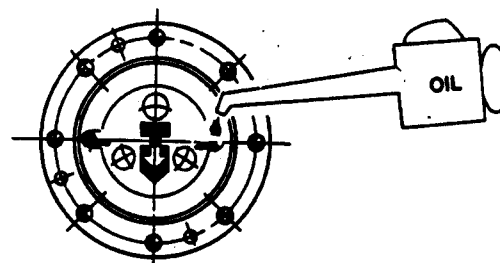

Figure 2.
4. Move the machine until the plug is lined up as shown in Figure 2. Clean area around the axle hub drain/fill plug. Remove the plug and check oil level. Oil level must be level with the bottom of the fill plug hole. If low add recommended oil, see Section 1050.
8. Move machine to place axle in position shown in Figure 2. Fill axle hub to level with bottom of fill hole with recommended lubricant. See Section 1050. Install plug.